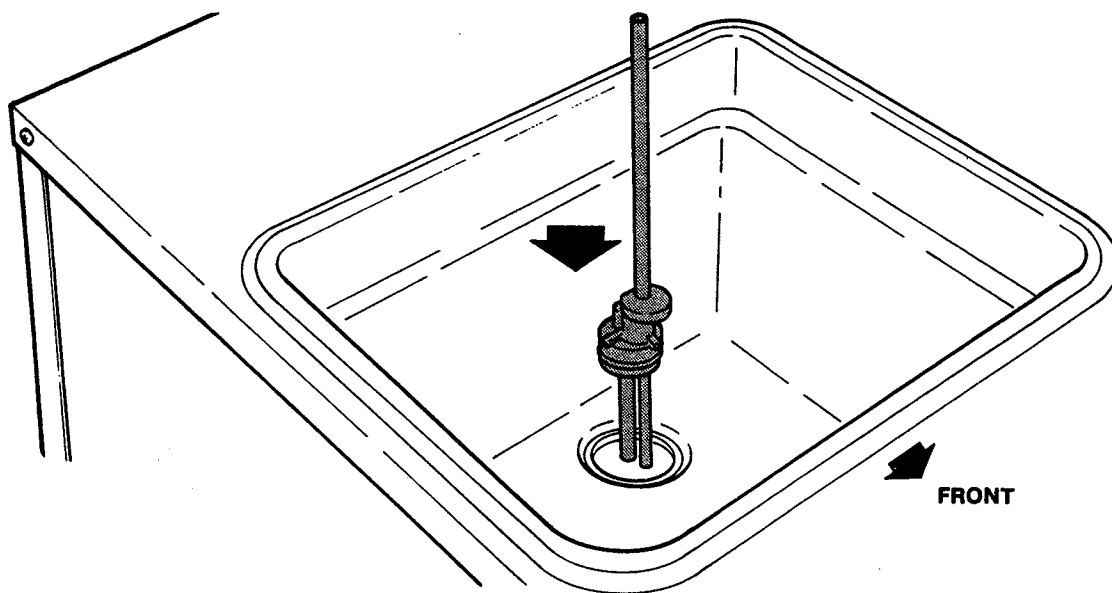

Figure 15. Carburetor Installation
- E. The freezer barrel will automatically fill until it is about 1/2 full (about 3 min.). If freezer barrel does not fill, check for obstruction in the mix inlet regulator. If freezer barrel fills over 1/2 full, check for leaks at the mix inlet regulator "O" Ring, check if the mix inlet regulator was installed correctly, or that the freezer is level (Fig. 15).